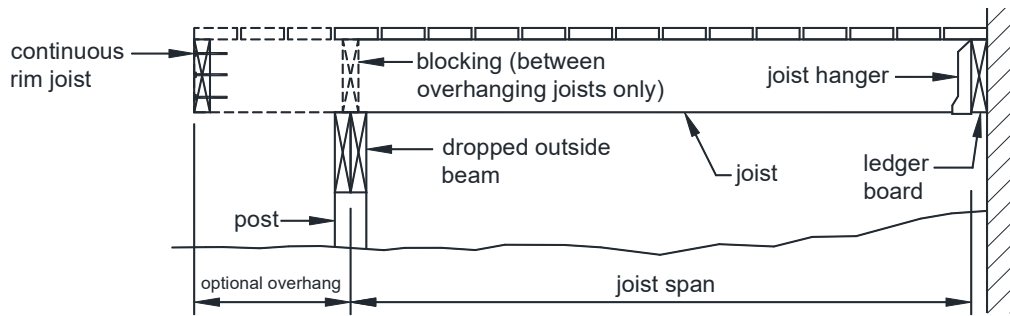
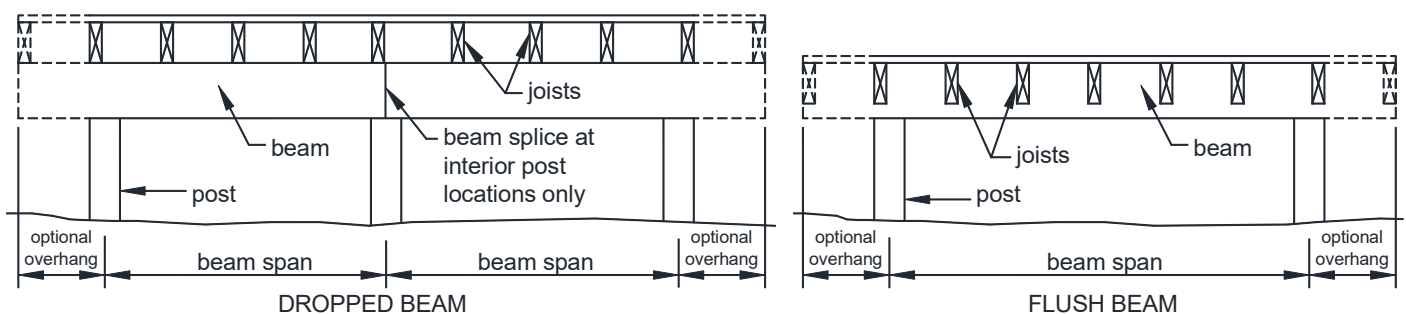

FIGURE 5: SINGLE SPAN DECK - JOISTS ATTACHED AT HOUSE WITH DROPPED BEAM
FIGURE 13: BEAM TYPES
- Single span decks are framed with joists that have one span between supports (not including overhang) as shown in FIGURES 5 and 6. Multi-span decks have joists with more than one span which bear on multiple beams as shown in FIGURES 7 and 8.
- Attach a continuous rim joist or blocking at the joist ends as shown in FIGURES 5, 7 and 9. Attach a rim joist to the end of each joist with (3)10d nails or (3) #10 by 3-inch wood screws.
- Dropped beams have joists bearing above; flush beams have joists with hangers bearing on its sides; see FIGURES 5 through 9 and FIGURE 13.
- Beam span length, as shown in FIGURE 13, is measured between the centerlines of two adjacent posts and does not include the beam overhangs.
- Beam plies are permitted to have splices. However, splices shall be located at inside post connections as shown in FIGURE 13.